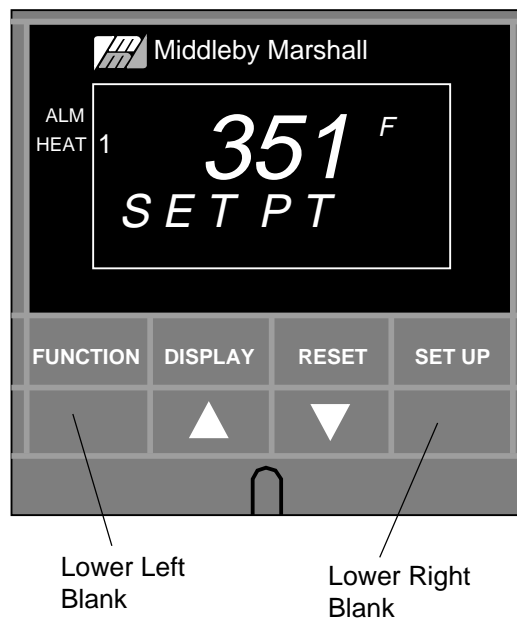

Figure 3-7
- a. Raising the temperature set point. Refer to Figure 3-7.
Press and Hold the UP Arrow Button (▲). The temperature set point will begin to increase by one degree at a time. With your other hand, press the DOWN Arrow Button (▼) once and release. The temperature set point will begin increasing in 10 degree increments. Press the DOWN Arrow Button (▼) again and release. The temperature set point will begin increasing in 100 degree increments. See Figure 3-7.